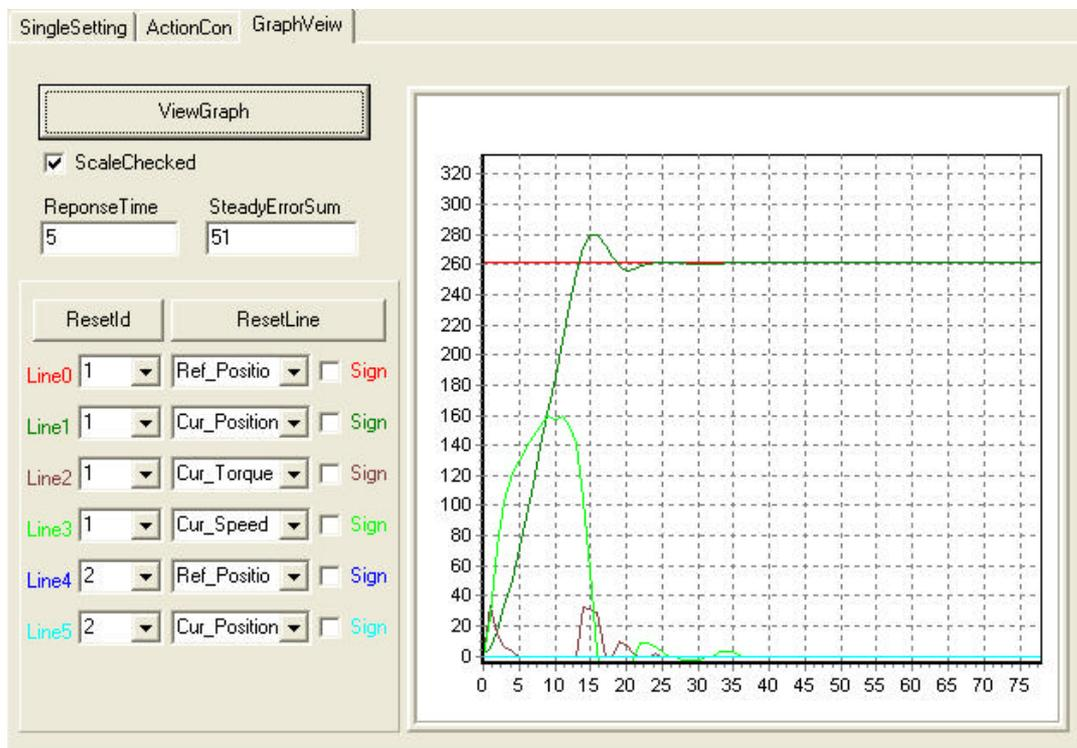

Figure 5 – Graphical Function
- Select the GraphView Panel (Refer Figure 5).